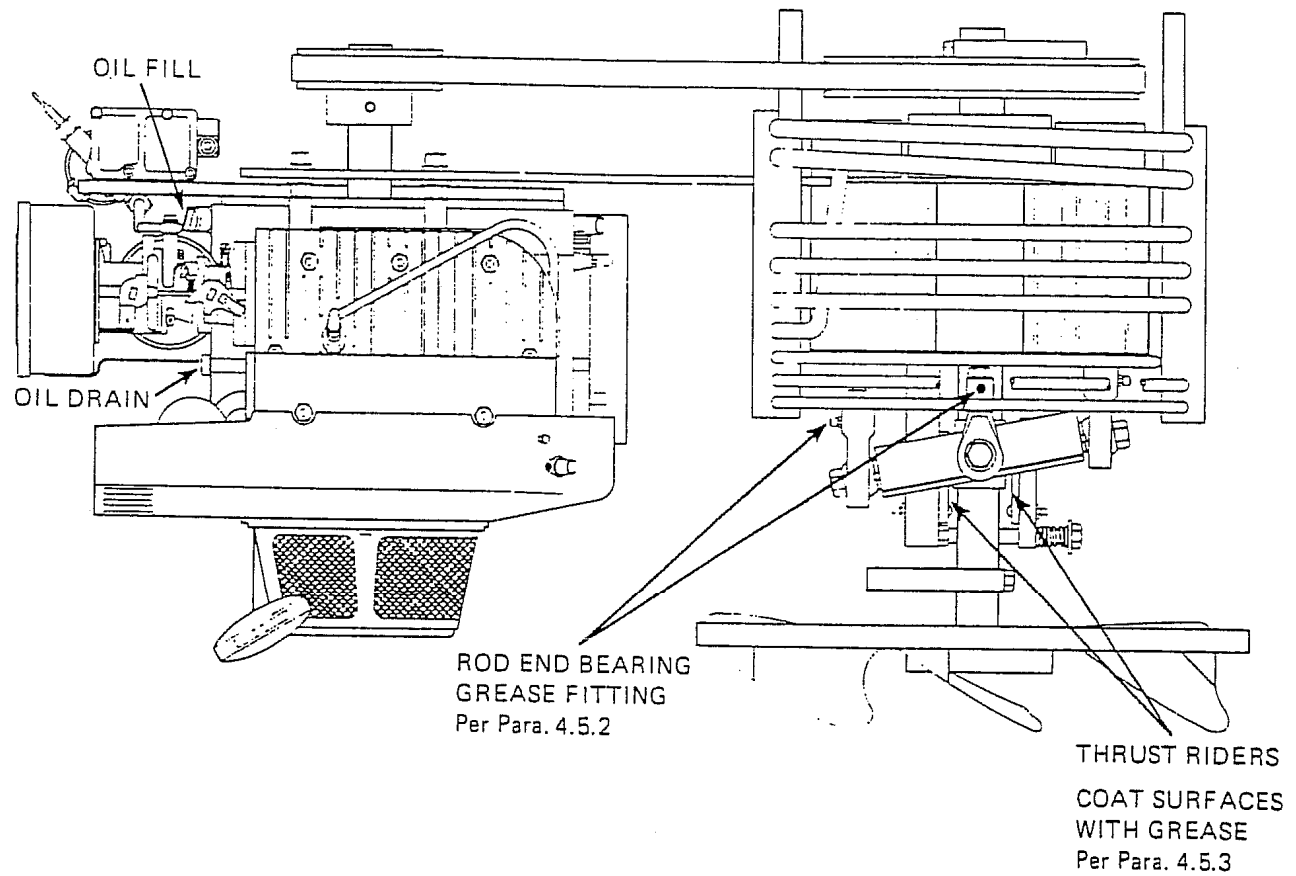

Figure 4-1 Maintenance Points
beneath the carburetor, wipe and insert squarely back into the hole. Do not screw in. Withdraw the dipstick and check the level as indicated on the stem. Top-up as necessary with the approved oil. See Fig. 4-1 for the oil fill and drain locations.
4.5.2 ROD ENDS. (See Figure 4-1). Lubricate each rod end bearing every 50 hours of operation by connecting the hand lever pump to the fitting provided. Stroke the lever until grease can be seen oozing out around the ball. Rotate the crankshaft back and forth a fraction of a turn to allow the grease to flow completely around the ball.
4.5.3 THRUST RIDER. (See Figure 4-1) The track beneath the wobble plate bearing should be lubricated at the same time. The old grease may contain abrasives so this should be wiped off, using a rag. Apply a liberal coating of grease to the surfaces of the rider blocks and to the outer races of the thrust bearings.